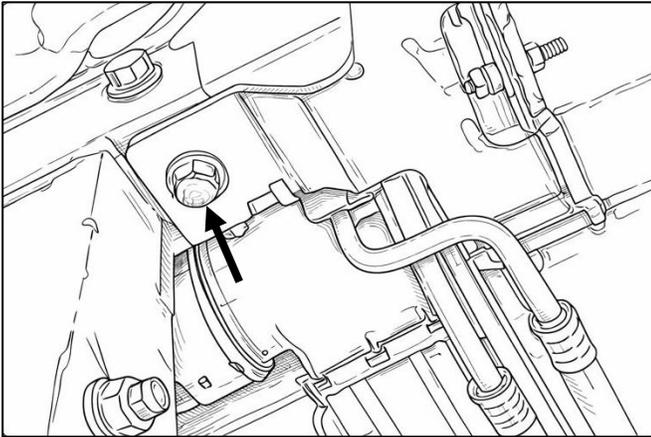

Figure 13: Underside Mounting of Winch Tray
16.  Fasten the WINCH CRADLE to the frame rail using the (8) factory bolts removed in Step 11. Apply thread locker to the threads but do not torque at this time.
17.  Reinstall the factory bolt to the underside of the WINCH CRADLE, apply thread locker but do not torque at this time. **See Figure 13.**